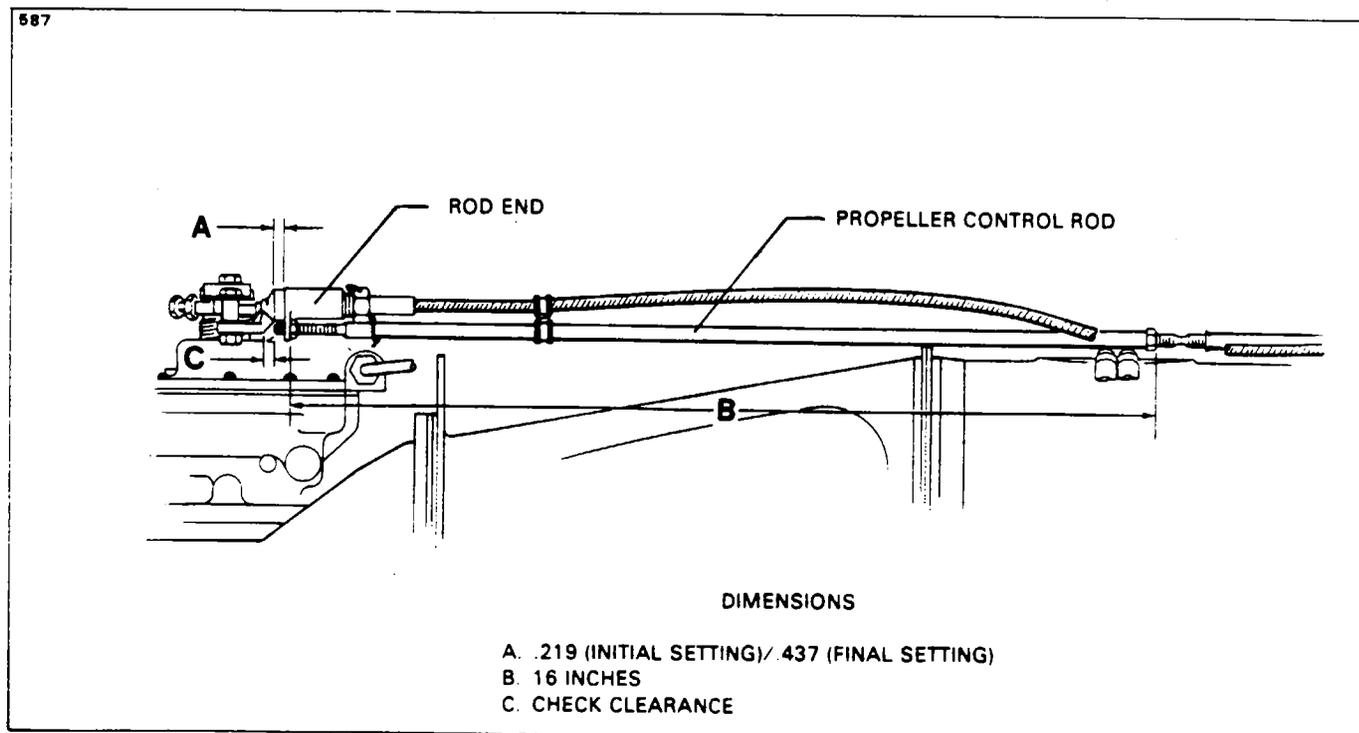

Figure 61-6. Propeller Synchrophaser Rigging (Left Engine Only)
#### REMOVAL OF TRIMMER ASSEMBLY. (Refer to Figure 61-6.)
8. With the trimmer assembly and actuator motor at these centered positions, connect the flexible shaft to the trimmer and secure with nut and safety wire as shown in Figure 61-6.
**SYNCHROPHASER RIGGING.** (Refer to Figure 61-6.)
3. Disconnect the synchronizer flex shaft from the motor and drive the shaft to extend the trimmer from the rod end assembly .219 of an inch. (Refer to Figure 61-6, Dimension A.)
4. Adjust the propeller control rod to obtain 16 inches between the stop nuts at each end of the rod. (Refer to Figure 61-6, Dimension B.) This is an initial setting only.
7. Drive the synchronizer flex shaft to extend the trimmer to .437 of an inch. (Refer to Figure 61-6, Dimension A.)
10. Check the clearance between the trimmer and rod end assembly as shown in Figure 61-6, Dimension C.